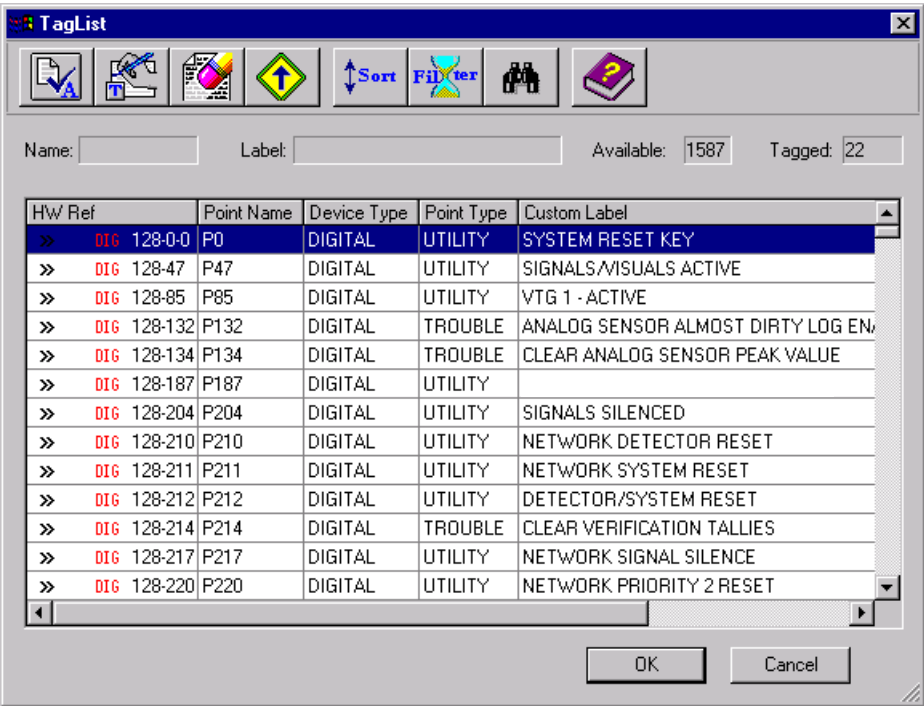

Figure 13-3. Tag List for Extenal Points
2. Click OK. The tag list shown in Figure 13-3 appears. This taglist contains all of the points that are currently declared public on the node selected in Step 1 above.